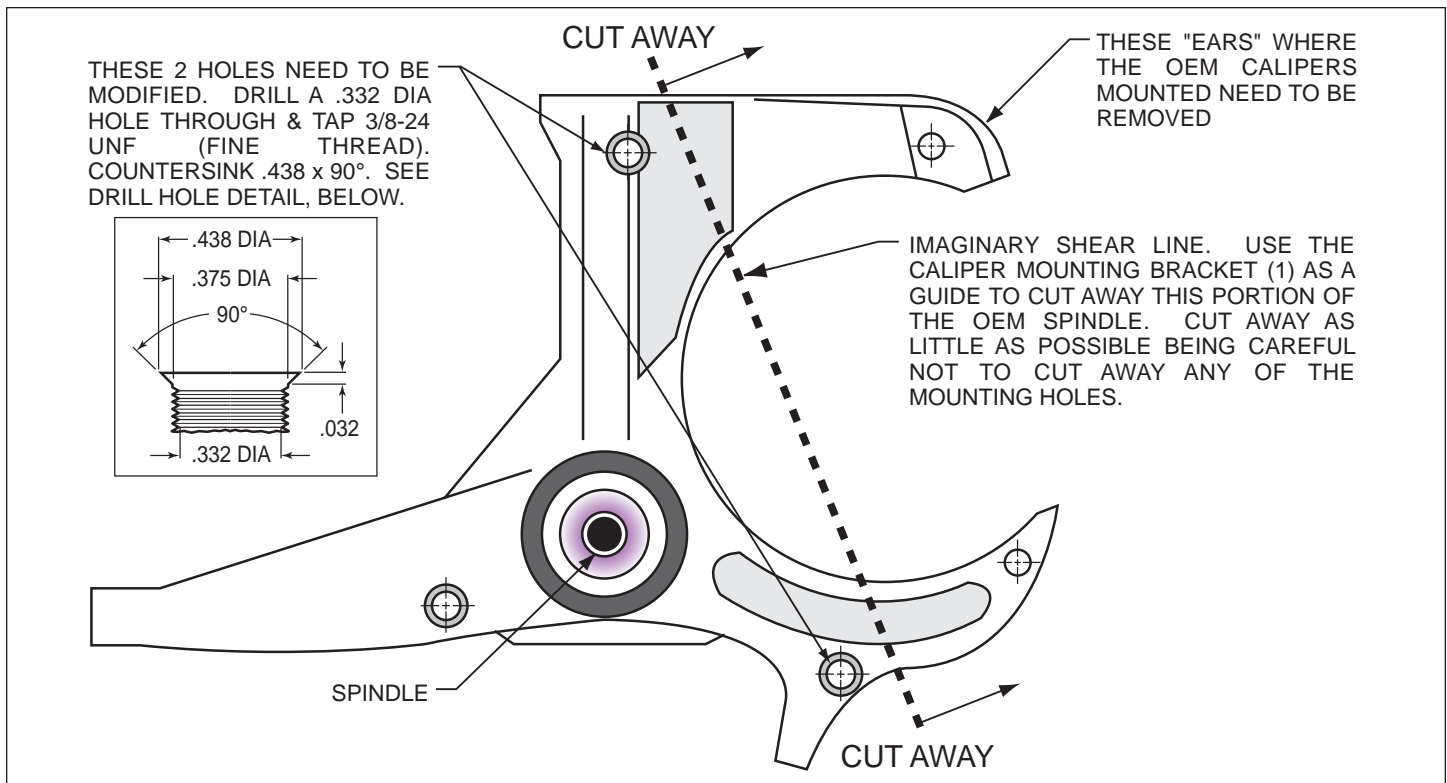
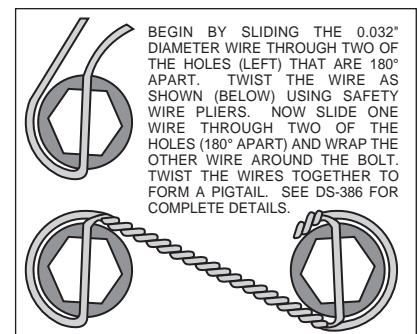
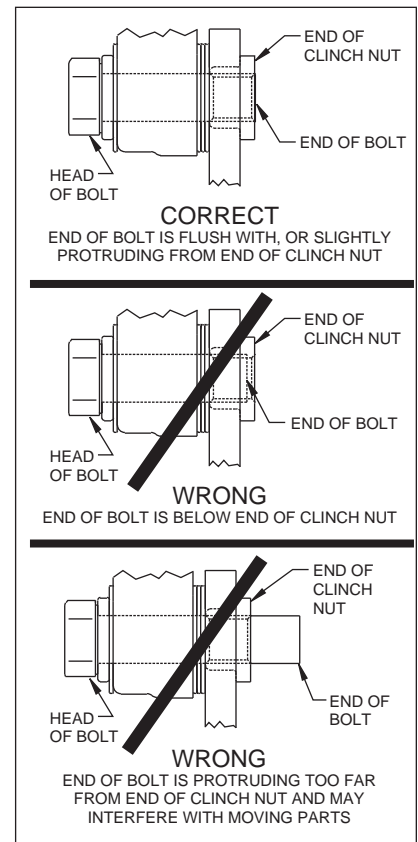

Figure 1. Steering Arm / Spindle Modifications
Figure 4. Safety Wire Diagram
Figure 5.
These modifications should be performed by a qualified machinist. Refer to Figure 1 on the following page as necessary (numbers in parenthesis refer to the parts list on page three). Only one view of the steering arm/spindle is shown, but the modifications need to be performed on both steering arm/spindles.
- Apply red *Loctite*® 271 to bolt threads (2) before assembly of the caliper bracket (1) to backing plate face of spindle. Position the caliper mounting bracket (1) onto the spindle while positioning spacers (3) between bracket and spindle face. Slip the mounting bolts (2) into the threaded spindle holes, finger tighten. Torque two bolts (2) to 30 ft-lb. **NOTE:** Be sure the heads of the caliper bracket (1) insert nuts are facing outward toward the wheel.
- Install five new wheel studs (4) into the hub (5). Torque to 77 ft-lb. **NOTE:** There are two five lug patterns in the hub (5 x 4.50 and 5 x 4.75). Make sure of the correct hole pattern for the correct wheel application before installing studs into hub.
- Pack the large inner bearing cone (6) with high temperature disc brake bearing grease (available from your local auto parts store) and install into the backside of the hub (5).
- Install the grease seal (7) by pressing into the backside of the hub (5).
- Attach rotor adapter (8) to rotor (9) using six bolts (10). Torque bolts (10) to 180 in-lb. Safety wire bolts (10) using standard 0.032 inch diameter stainless steel safety wire as shown in Figure 4. Please refer to Wilwood's data sheet DS-386 (available at www.wilwood.com/Pdf/DataSheets/ds386.pdf) for complete safety wire installation instructions. **NOTE:** The flat side of the rotor (8) lugs face toward the rotor adapter (9) with the dished side of the rotor adapter (8) facing away from the rotor (9).
- Mount the adapter/rotor assembly (8/9) to the hub (5) using bolts (11), as shown in Figure 1. Using an alternating sequence, apply red *Loctite*® 271 to the threads, and torque to 55 ft-lb. Safety wire bolts as shown in Figure 4.
- Pack the small outer bearing cone (12) with high temperature disc brake bearing grease and install into front of hub (5). Slide the hub/rotor assembly (5 and 9) with outer bearing cone (12) onto the spindle. Secure using stock washer, adjusting nut and nut locking device.
- Install the dust cap (15) onto the hub (5). Friction created by the o-ring (14) on the dust cap (15) keeps it from unscrewing. The O.D. of the existing spindle washer may be larger than the I.D. of the dust cap (15) not allowing it to seat against the hub face. Therefore, use the spindle washer (13) supplied with the kit instead of the stock washer.
- NOTE:** Please reference the caution statement at the beginning of the assembly instructions. Mount the caliper (16) onto the caliper mounting bracket (1) using washers (17), bolts (18) and caliper spacer (19) positioned between caliper (16) and the caliper mounting bracket (1). Finger tighten. View the rotor (9) through the top opening of the caliper (16). The rotor (9) should be aligned in the center of the caliper (16). If not, adjust the caliper (16) by using 0.032 inch thick shims (20) placed between the caliper mounting bracket (1) and the caliper (16). Add as many shim washers (20) as necessary to achieve the correct alignment. **NOTE:** The end of the bolt must be flush with or slightly protruding from the head of the clinch nut. See Figure 5. Place spare shims (20) between washer and caliper mounting ear to achieve the proper mounting fastener configuration. Always use the same amount of shims on both the top and bottom caliper mounting bolts (18). Finger tighten and recheck alignment, adjust as necessary. Apply red *Loctite*® 271 to bolt threads (18) and torque to 40 ft-lb. Safety wire caliper bolts (18).
- Install the disc brake pads (21) into the caliper (16).
- Secure the disc brake pads to the caliper utilizing cotter pin (22).